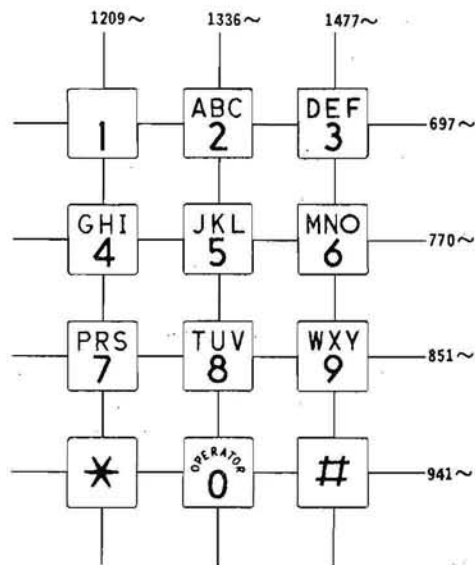
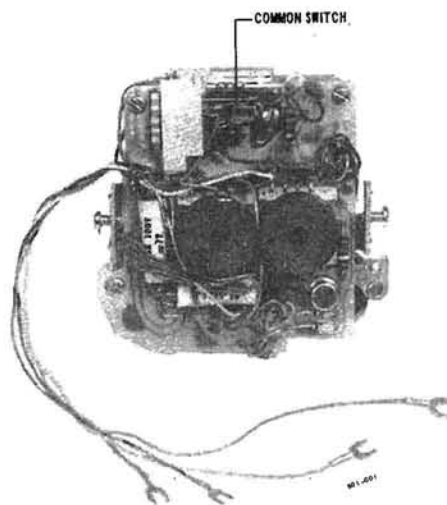

Fig. 2 - Dial Frequencies
Fig. 3 - NE-35Q3A1 Dial, Rear View
2.02 Any pushbutton when depressed will close one low band and one high band frequency contact. These contacts close a path for 2 of the 7 output frequencies of the oscillator (Fig. 2). Continued travel of the button will operate the common switch (Fig. 3). Each button operates a different pair of frequency contacts. For example,
2.03 The common switch (Fig. 3), when operated, reduces the sidetone to the receiver, opens the transmitter path, applies bias voltage to the transistorized oscillator, and breaks the dc energy path to the tank coils.